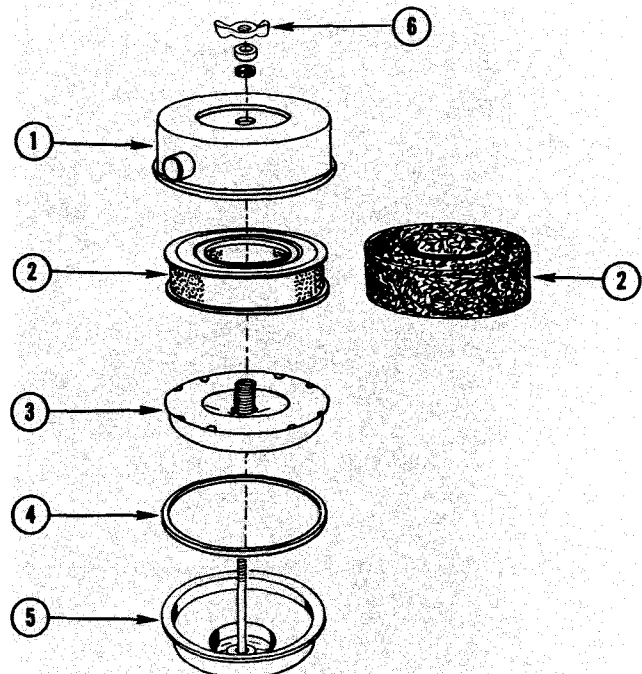

Fig. 2-17 (V51909) Crankcase breather — mesh element with vapor barrier
1. Remove wing nut (6, Fig. 2-17), flatwasher and rubber washer securing cover (1), to breather body (5).
2. Lift off cover and lift out breather element (2), vapor element (3) and gasket (4).
5. Install cleaned or new breather element (2, Fig. 2-17) and cleaned vapor element (3) to breather body (5).
6. Install rubber gasket (4) in cover (1), position cover assembly to body (5).
7. Install rubber washer, flatwasher and wing nut (6); tighten securely.